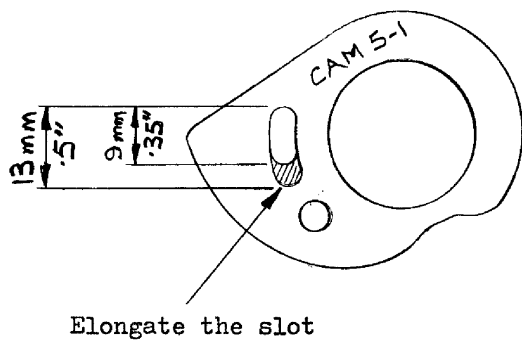

FIG.1
4. Remove the cam from the coupling and if the slot is 9mm (.35") long elongate it Fig.1